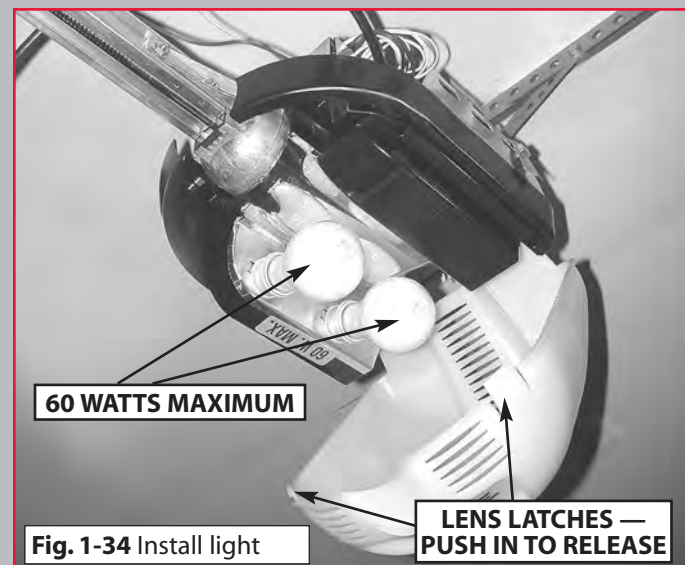

Fig. 1-34 Install light
16. Install light bulbs (not provided)(Fig. 1-34).